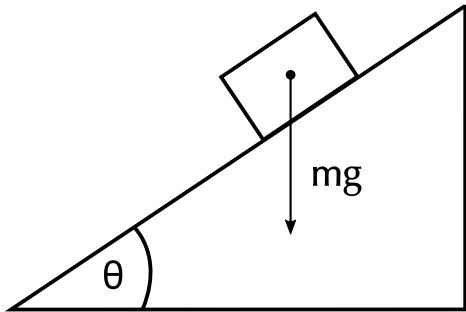
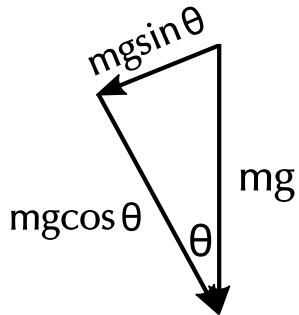

Figure 1
Figure 2
1. Use geometry to show that the  $\theta$  in Figure 1 is the same as the  $\theta$  in Figure 2.
Used geometry to prove that $\theta$ in Figure 1 and Figure 2 are equivalent